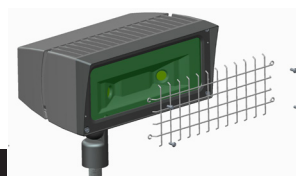
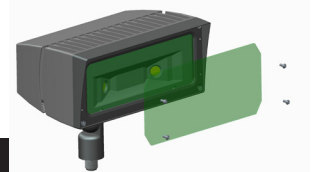

Fig. 1
Fig. 2
Wire Guard and Poly Shield mount with (4) #8-32 **Stainless Steel Screws**. Screws are provided with accessory. Guard and Shield may be used together. See **Figure 1** for Guard. See **Figure 2** for Shield.